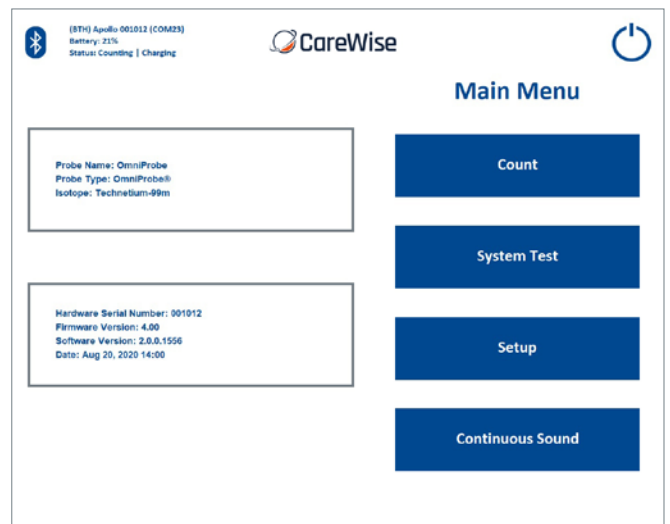
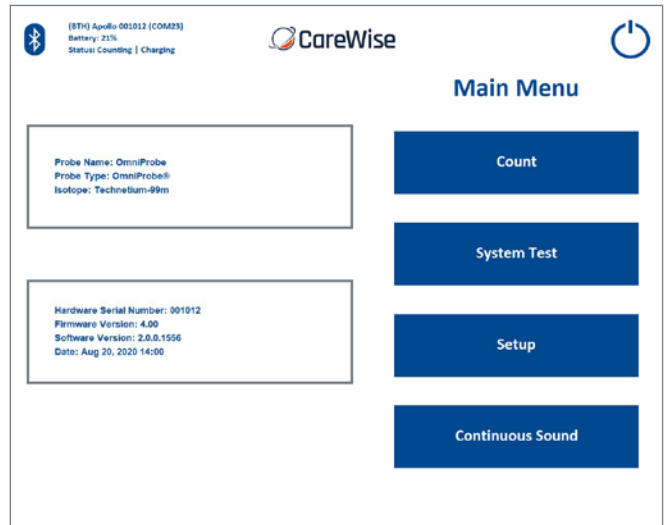

Figure 11 – Main Menu Screen
Figure 12 – System Test Screen
- (7) **Toggle between manual and auto-range** – When the [AUTO] ranging option is selected, the software will automatically change the measurement range and associated sound pitch to the optimal setting for the quantity of radioactivity being detected at that point in time. The optimisation process typically takes no more than five seconds.
- (8) **Main Menu Button** – Pressing this button directs the user to the MAIN MENU [Figure 11], described in 2.4-6.
- (9) **System Shutdown**
- (10) **Probe Connection** – (see section 2.4-14).
The Main Menu [Figure 11], allows the user to navigate to the Count Screen (described in 2.4-1), System Test Screen (described in 2.4-7), and Setup Screen (described in 2.4-8), and also allows the user to change the audible count rate sound type and turn off the C-Trak® Apollo System's power using the “Shutdown” power icon, (described in 2.4-13).
On the System Test Screen [Figure 12], reached from the Main Menu [Figure 11], a user can calibrate and test all functionality of the Apollo system. When a user presses SYSTEM TEST, the Apollo system will both calibrate and test the system.